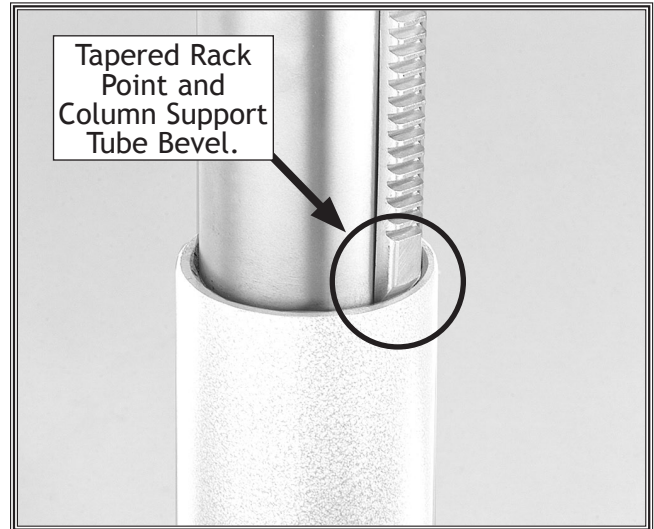

Figure 12. Bevel and rack seated correctly.
8. Seat the rack tapered-point into the bevel that is cut into the column support tube (see **Figure 12**).